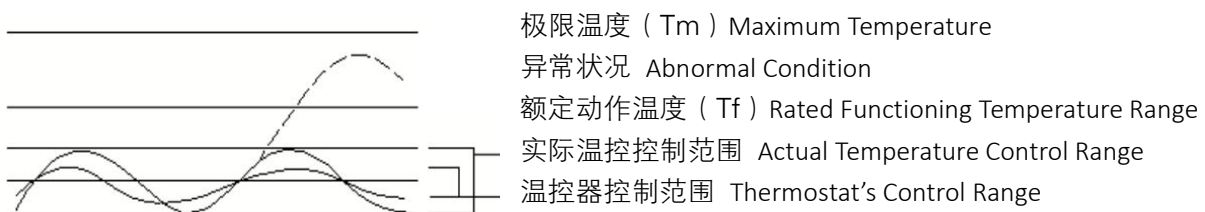

图 1 Fig.1
- 应用产品必须经过测试以确定出现任何异常状况时都不会使温度保险丝周围温度超过极限温度 (Tm)，这种状况可能出现在一种称为“余热过冲”的状况下。例如：一个热风机在进风口或出风口堵塞时引起温度升高到 Tf，这时温度保险丝断开电路，但是，一个不正确的设计可能会引起装置提前开路 and 过度的余热过冲可能会损伤保险丝，应用产品须经测试以确定在正常的温度波动状态 (如控温器的动作与复位引起的加热器温度波动) 下，温度保险丝周围温度在控温器的通断循环中不会达到 Tm。(见图 1)
- The end product should be tested to ensure that potentially abnormal conditions do not expose the thermal cutoff to the temperature exceeding its Tm. This condition may be subjected to a blocked inlet or outlet condition on attaining its Rated functioning temperature opening of the device and excess overshoot may cause shooting or damage to the thermal cutoff. The end product should be tested to ensure that under normal cycling condition (such as cycling of a thermostat), the thermal cutoff never reaches its Tf during the on/off cycle. (see Fig 1)